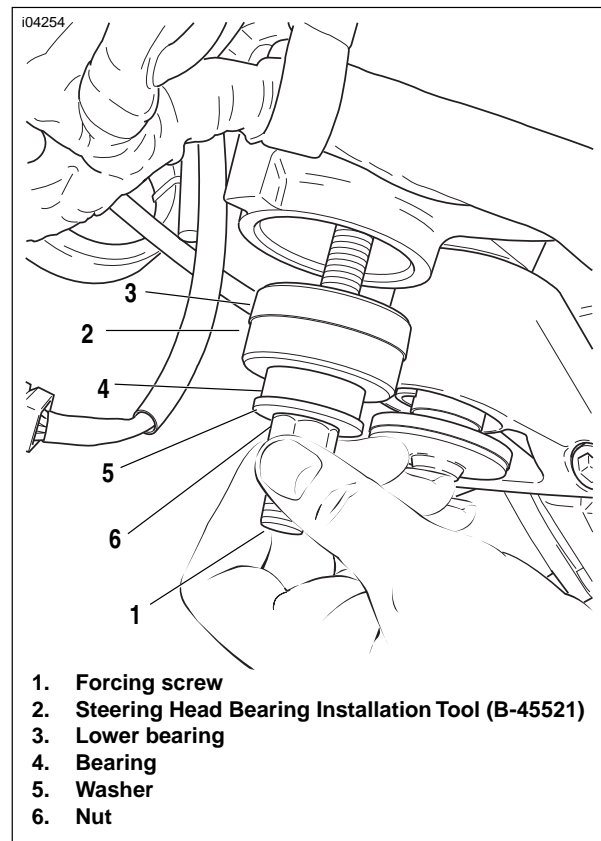

**Figure 2-78. Steering Head Bearing Lip**
- a. See Figure 2-78. Place the upper bearing squarely in the steering stem bore with the inner race lip pointing away from the steering head.